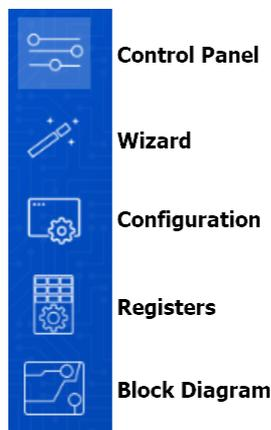

Figure 26. RICBox GUI Menu Buttons
7. Use the side panel menu buttons (see Figure 26) to navigate through the GUI for all five separate pages.